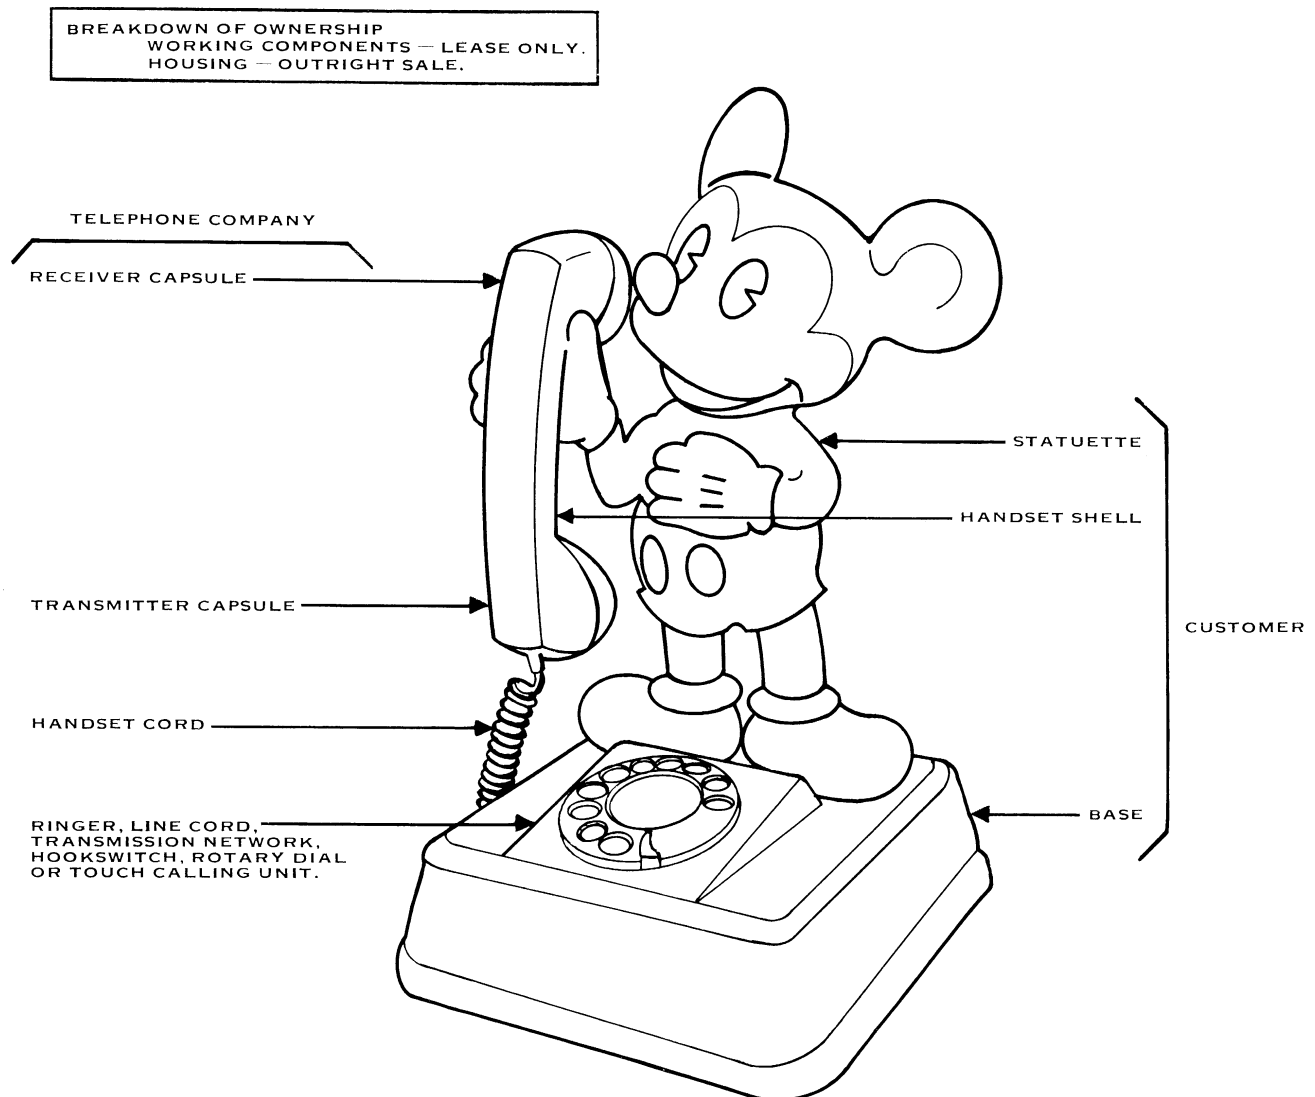

Figure 4. Mickey Mouse Telephone.
2.10 The Mickey Mouse telephone housing (Figure 4) is a statuette of the character Mickey Mouse. The Mickey